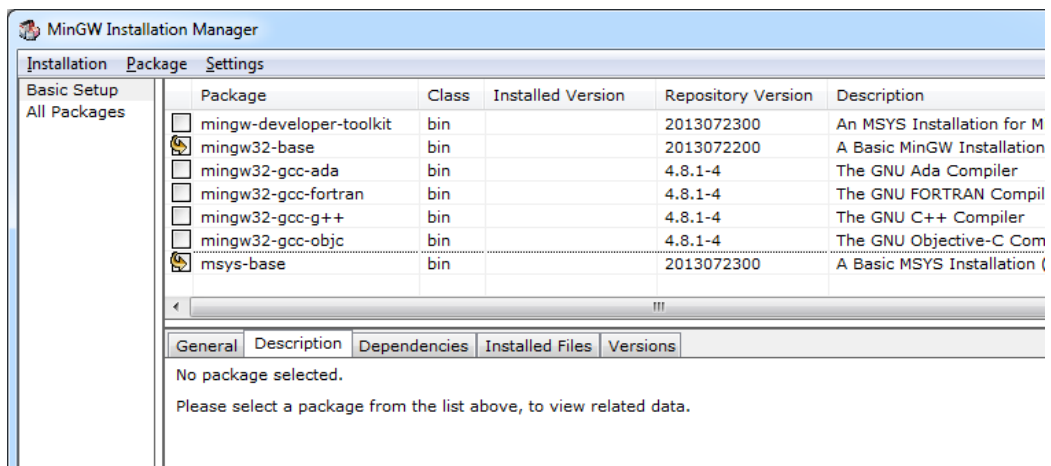

Figure 17 - MinGW Installation Manager
- When the installation manager window appears, as shown in Figure 17, choose `mingw32-base` and `msys-base` in the “Basic Setup” section.